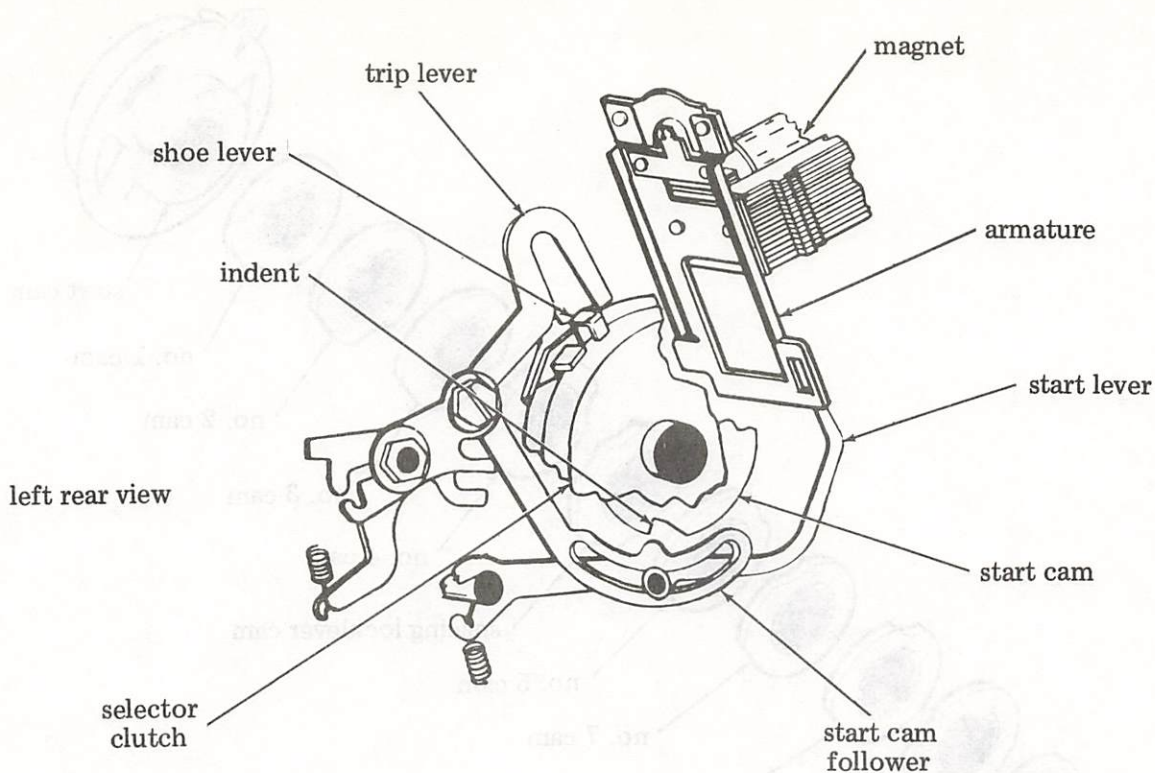

Figure 18 - Selector Trip Mechanism
4.30 The selector mechanism illustrated in Figures 18 and 20 receives the code combinations from the selector magnet driver and converts them to mechanical arrangements that control the codebar mechanism.